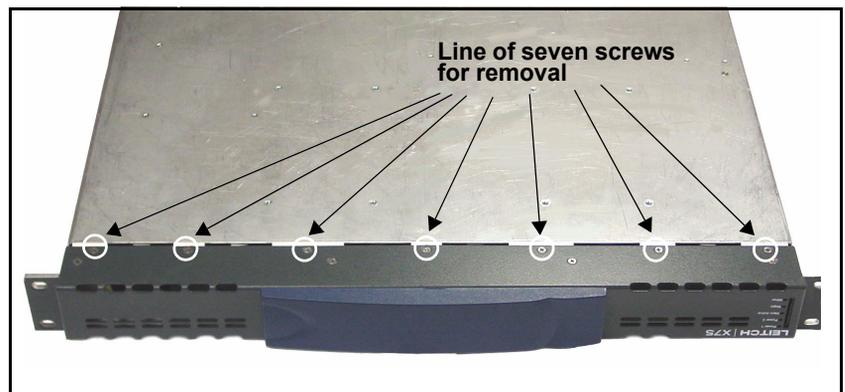

Figure 1-3. Removing the Bottom Front Panel Screws
4. Remove the seven screws along the bottom of the blank front panel that hold the panel to the frame (do *not* remove the line of four screws that secure the fan module). See Figure 1-3 below.